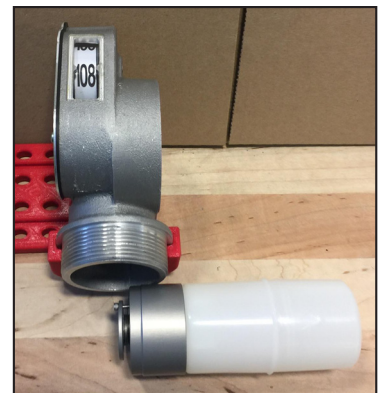

Fig. 1
5. Holding the float near the bottom (threads) of the gauge (See Fig. 1), remove the screw from the top of the float using the included hex key wrench. Use caution to avoid damaging the cable with the threads of the screw. Turn the float so the screw threads do not contact the cable.